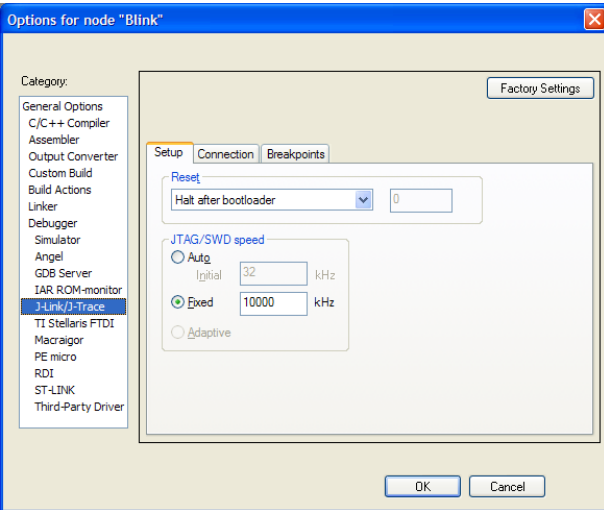

Figure 29. Configuring the J-Link/J-Trace Settings
- Click **J-Link/J-Trace** in the **Category** box, and configure the **Setup** tab as shown in Figure 29.